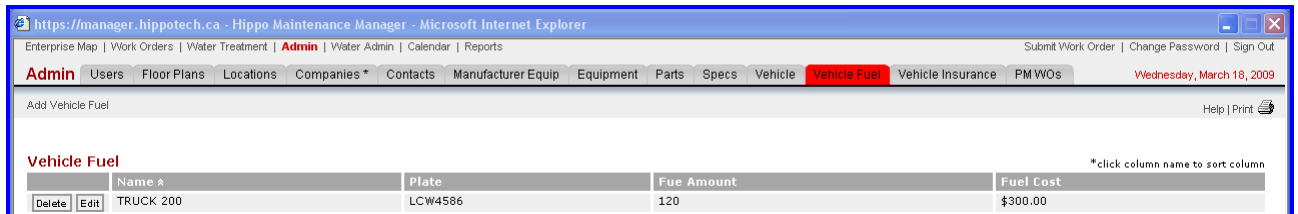

Figure 52: Delete Vehicle Fuel
2. Click the **Delete** button beside the vehicle that you want to delete (See Figure 52).